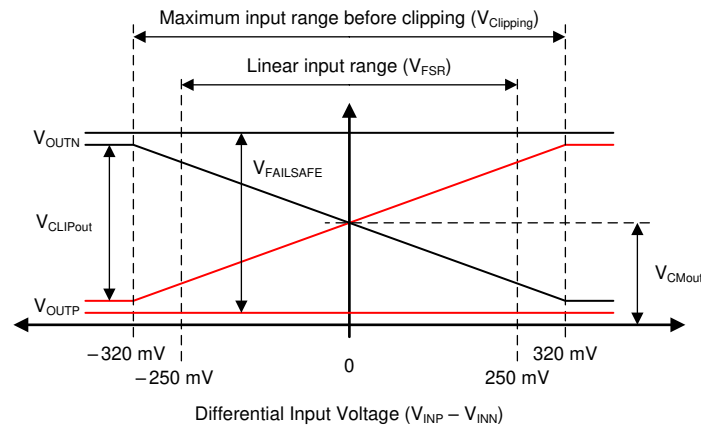

图 7-2. Output Behavior of the AMC3301
The AMC3301 offers a differential analog output comprised of the OOUTP and OOUTN pins. For differential input voltages ($V_{INP} - V_{INN}$) in the range from -250 mV to $+250\text{ mV}$, the device provides a linear response with a nominal gain of 8.2. For example, for a differential input voltage of 250 mV , the differential output voltage ($V_{OOUTP} - V_{OOUTN}$) is 2.05 V . At zero input (INP shorted to INN), both pins output the same common-mode output voltage V_{CMOut} , as specified in the Electrical Characteristics table. For absolute differential input voltages greater than 250 mV but less than 320 mV , the differential output voltage continues to increase in magnitude but with reduced linearity performance. The outputs saturate at a differential output voltage of $V_{CLIPout}$ as shown in Figure 7-2 if the differential input voltage exceeds the $V_{Clipping}$ value.
The AMC3301 provides a fail-safe output that simplifies diagnostics on system level. Figure 7-2 shows the fail-safe mode, in which the AMC3301 outputs a negative differential output voltage that does not occur under normal operating conditions. The fail-safe output is active in two cases:
- The low-side does not receive data from the high-side (for example, because of a loss of power on the high side). In this case, the amplifier outputs are driven to the V_{FAILSAFE} value that is shown in Figure 7-2.
- The high-side DC/DC output voltage (DCDC_OUT) or the high-side LDO output voltage (HLDO_OUT) drop below their respective undervoltage detection thresholds (brown-out). In this case, the low-side may still receive data from the high-side but the data may not be valid. The amplifier outputs are driven to the V_{FAILSAFE} value that is shown in Figure 7-2.